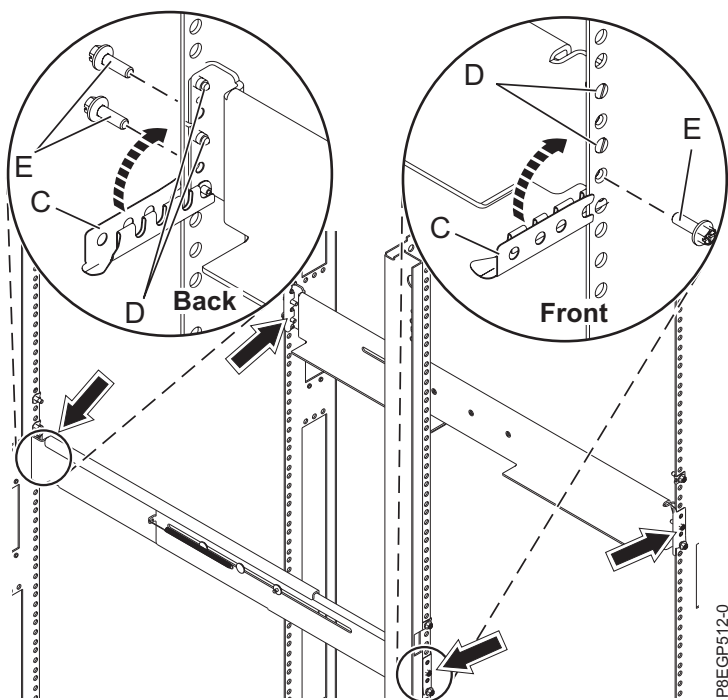

Figure 6. Attaching the rails
- a. Extend the right rail and insert the rail pins **(D)** into the two lowest mounting holes that are marked on the rack so that the rail is facing upward as shown in Figure 6 on page 10
- b. Rotate up the front clamp **(C)** to secure the rail in place as shown in Figure 6 on page 10.